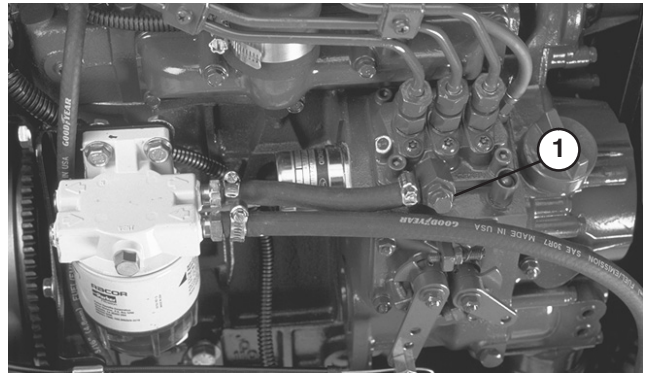

Figure 38
3. Open the air bleed screw on the fuel injection pump (Fig. 38).